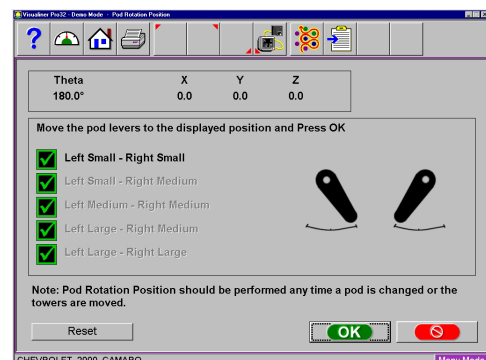

Figure 31
4. Continue the process until all camera positions have been checked. After the final rotation lever has been checked click on the **<Cancel>** button to exit. (Figure 31)